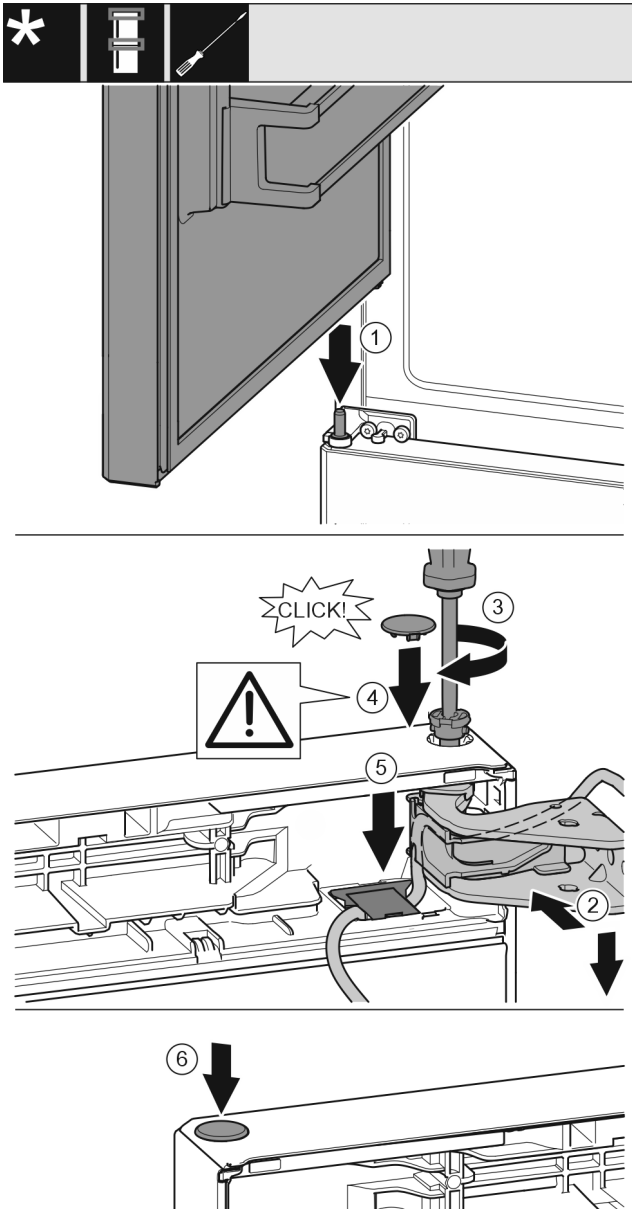

Fig. 42
- ▶ Place the upper door on the centre bearing pins Fig. 42 (1)
- ▶ Align the top of the door with opening in the bearing bracket. Fig. 42 (2)
- ▶ Insert the bolt and tighten with a T15 screwdriver. Fig. 42 (3)
- ▶ Fit the protective cover to protect the door: Insert the protective cover and check that it is flush to the door. If not, insert the bolt fully. Fig. 42 (4)
- ▶ Place the cover on the door and press it down until it latches into place. Fig. 42 (5)
- ▶ Insert the plugs. Fig. 42 (6)
- ▶ Place on the cover and press it down until it latches into place. Fig. 42 (5)